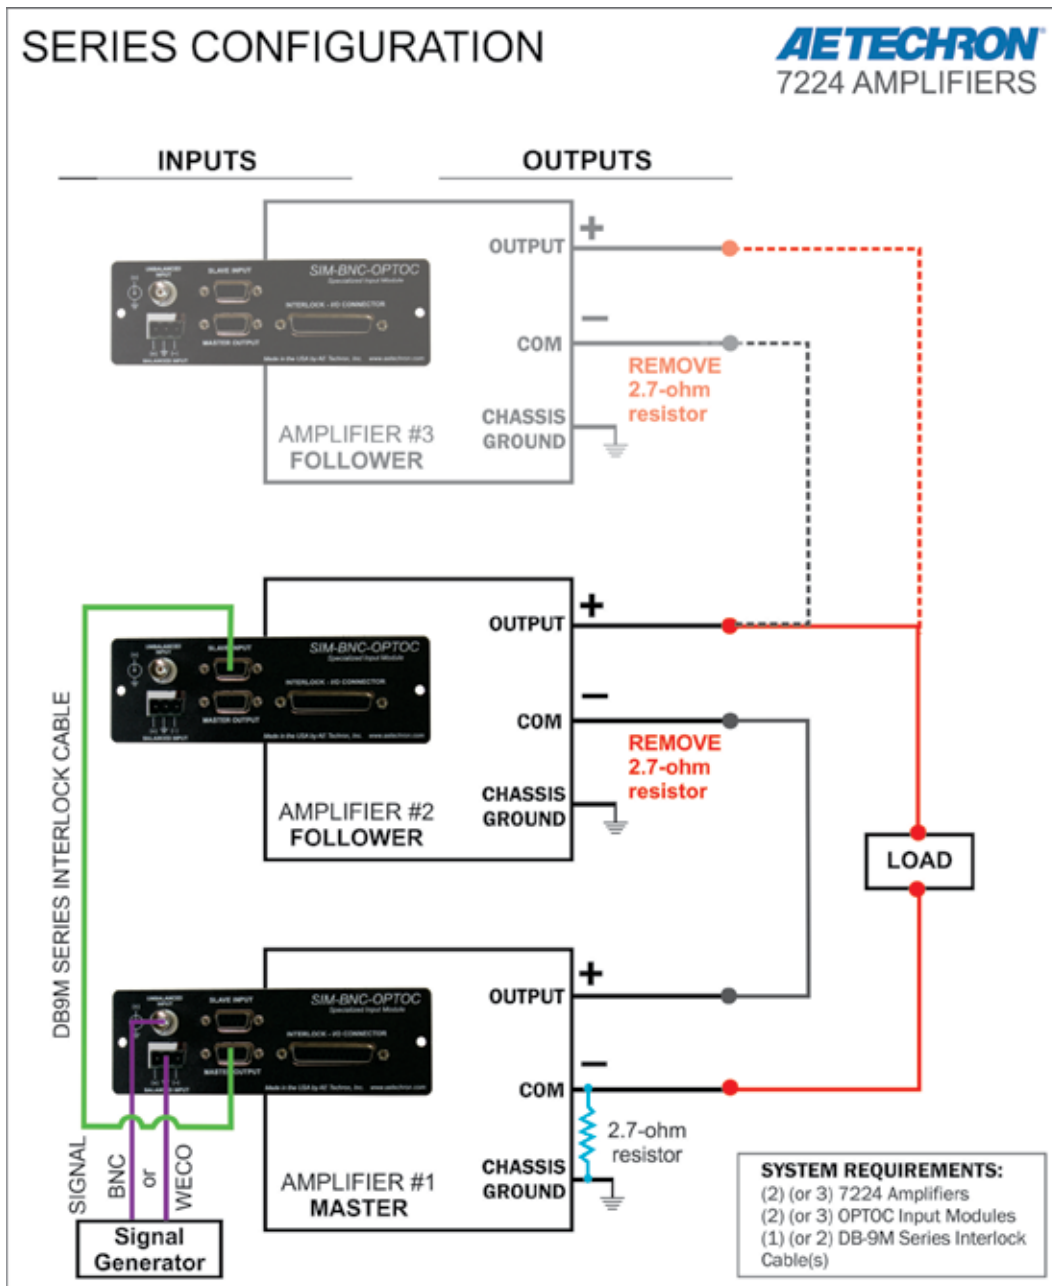

Figure B.2.43 – System Setup for Two- or Three-Amplifier Series Systems
- E. Check the completed system diagram in **Figure B.2.43** to verify proper system setup.